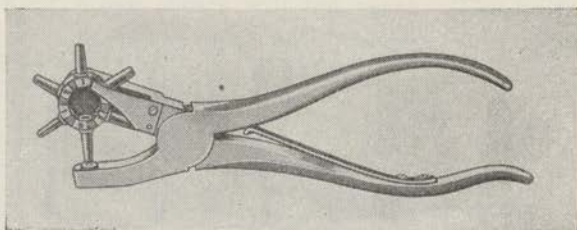

FIGURE 85.—Revolving punch.
n. Leather tools.—Leather tools are seldom required because straps are purchased ready-made, and upholstery and reinforcing leather can be handled like cloth. However, a revolving punch (fig. 85) is handy for making additional holes. It cuts clean holes of several different sizes and can be used for other materials as well as leather.